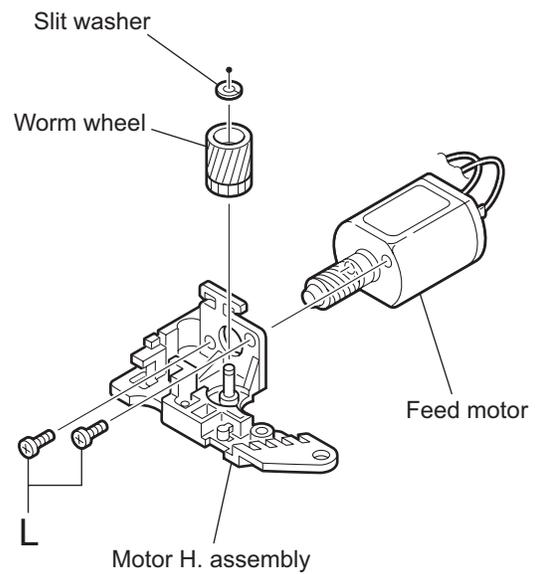

Fig.22
- (3) Remove the slit washer from the motor H. assembly and pull out the worm wheel. (See Fig.22.)
- (4) Remove the two screws **L** attaching the feed motor. (See Fig.22.)